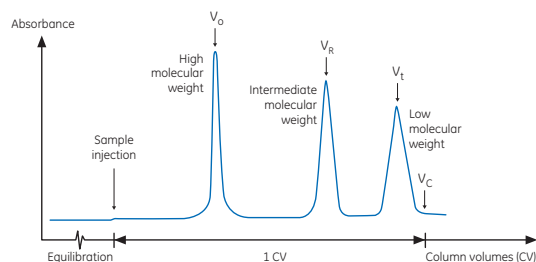

Fig 1. Schematic process of SEC.
Size exclusion chromatography (SEC), also called gel filtration (GF), separates molecules on the basis of differences in size as they pass through a SEC medium packed in a column. SEC media consist of spherical particles with pores of different sizes where molecules small enough to enter the pores are retarded as compared to larger molecules (Fig 1). Samples are eluted isocratically (single buffer, no gradient). Buffer conditions can be varied to suit the sample type or the requirements for the next purification, analysis, or storage step.